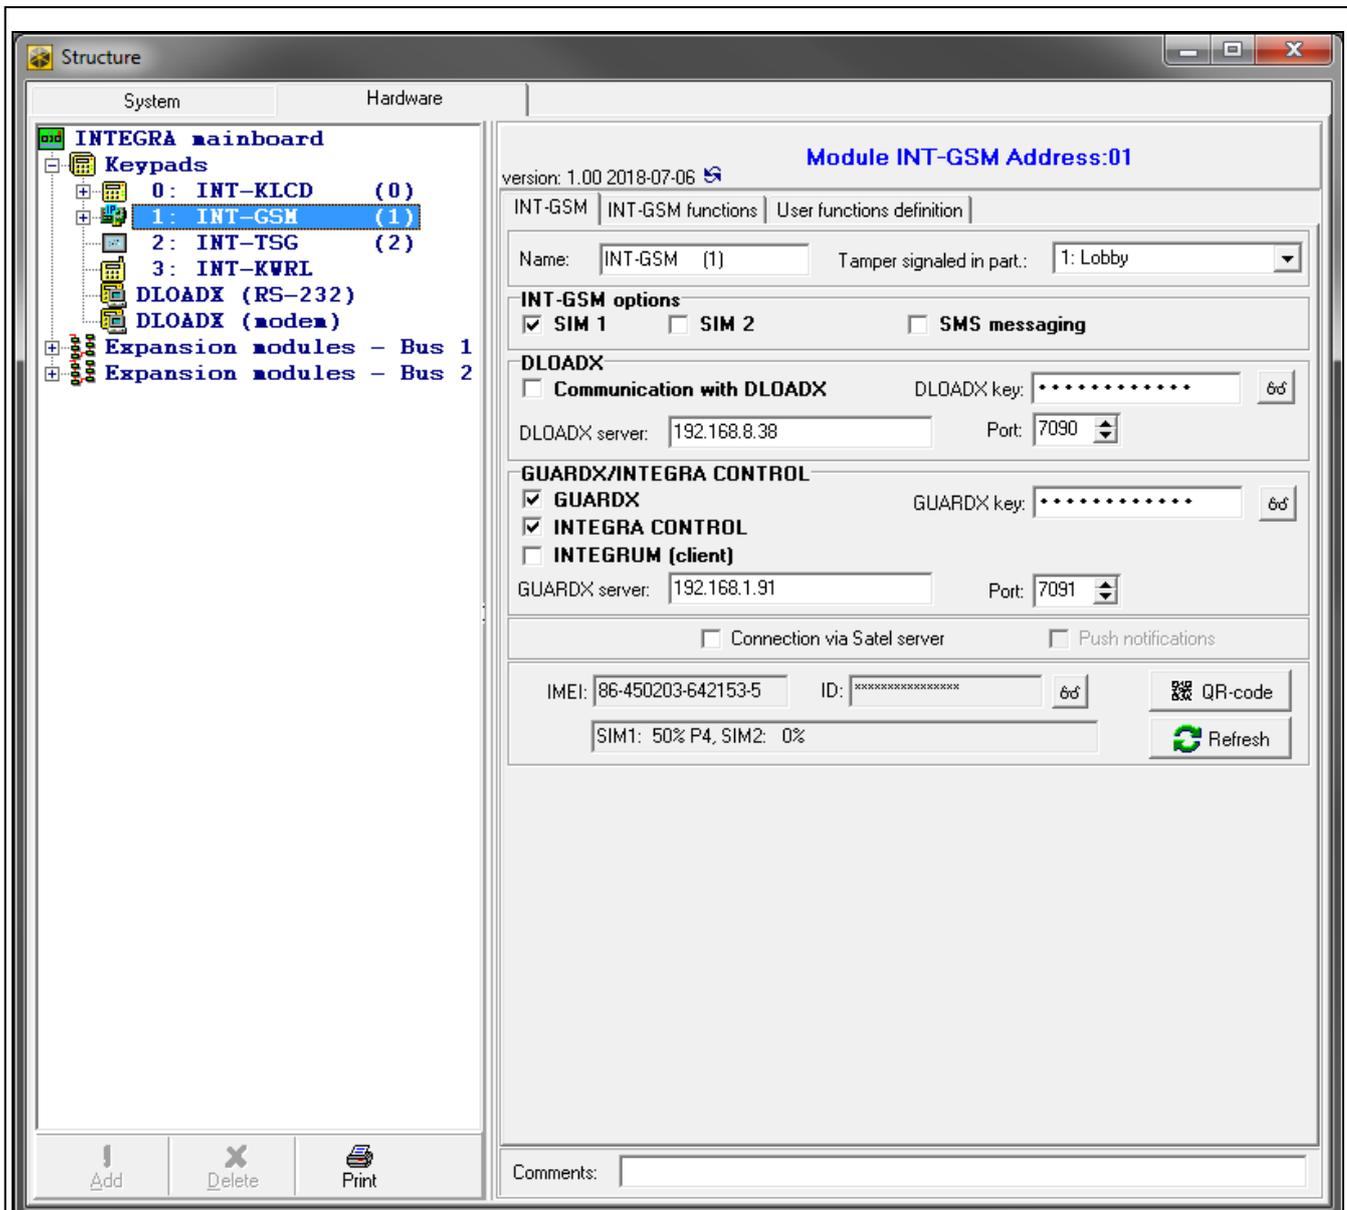

Fig. 9. DLOADX program: settings of the INT-GSM module connected directly to the INTEGRA / INTEGRA Plus control panel.
- DLOADX program: "Structure" window → "Hardware" tab → "Keypads" branch → [ module name] (Fig. 9),